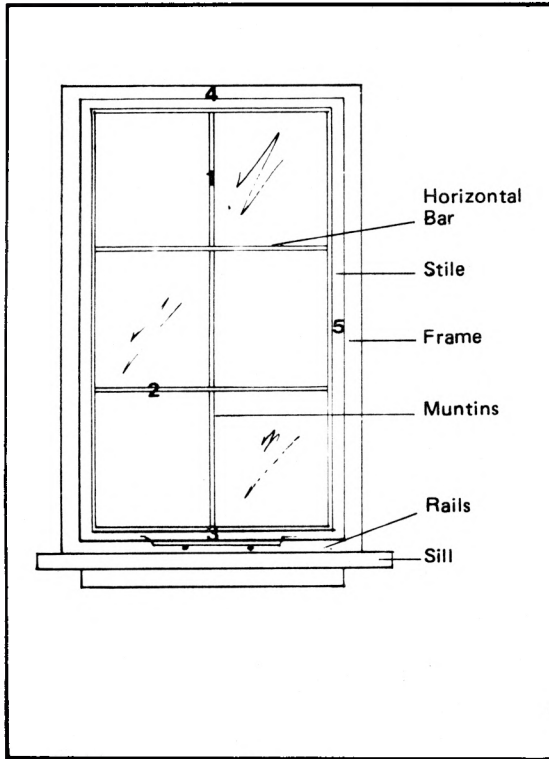

FIG. 3-4 SEQUENCE IN PAINTING CASEMENT WINDOWS
- k. When painting casement windows, paint muntins (vertical bars) first, then follow with horizontal bars, rails, sill and frame. See Figure 3-4.